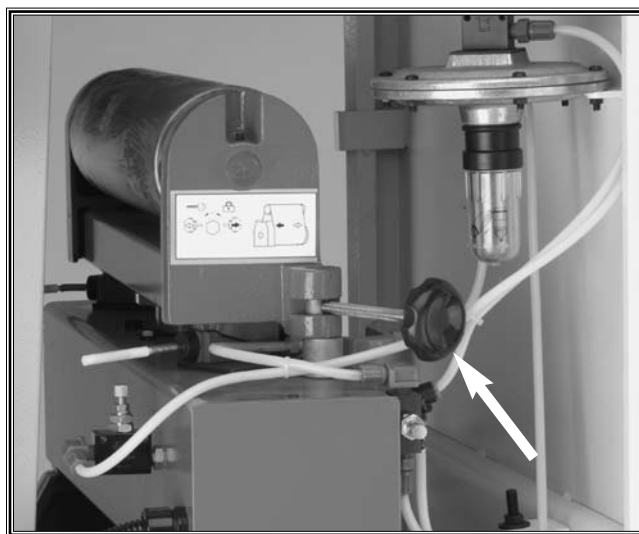

Figure 15. Oscillation timing knob.
3. If the belt moves too far to one side and stops the sander, then re-adjust the timing control knob (shown in **Figure 15**) approxi-